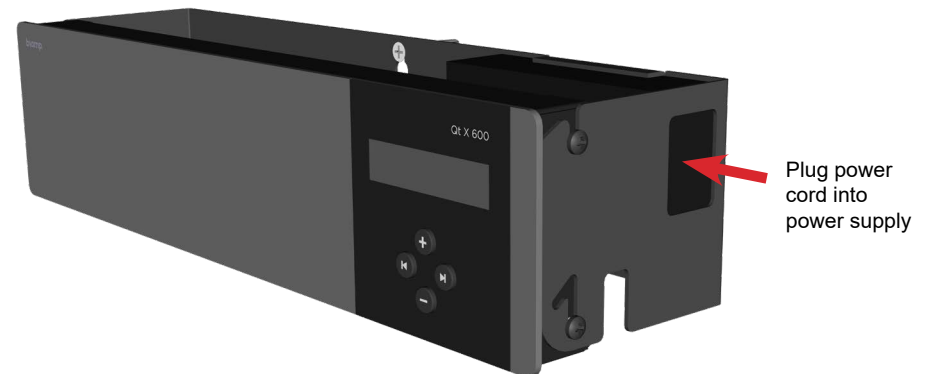

Figure 37. Controller in operating position
- Connect all wiring/cabling as described in Wiring & Connections. Rotate the Qt X up and move down into the operating position to lock into place. Tighten the side screws to secure it to the bracket (Figure 37).